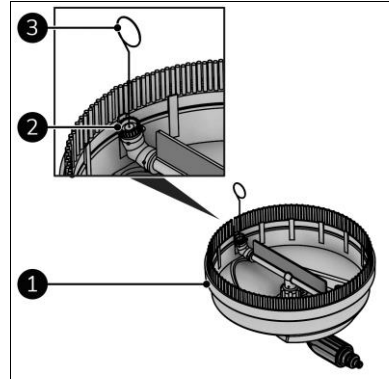

Figure 25
3. Remove the floor cleaner (Figure 25, pos. 1) from the extension lance (Figure 5, pos. 1) by turning it 90°.
4. Clean both nozzles (Figure 25, pos. 2) with the cleaning pin (Figure 25, pos. 3).